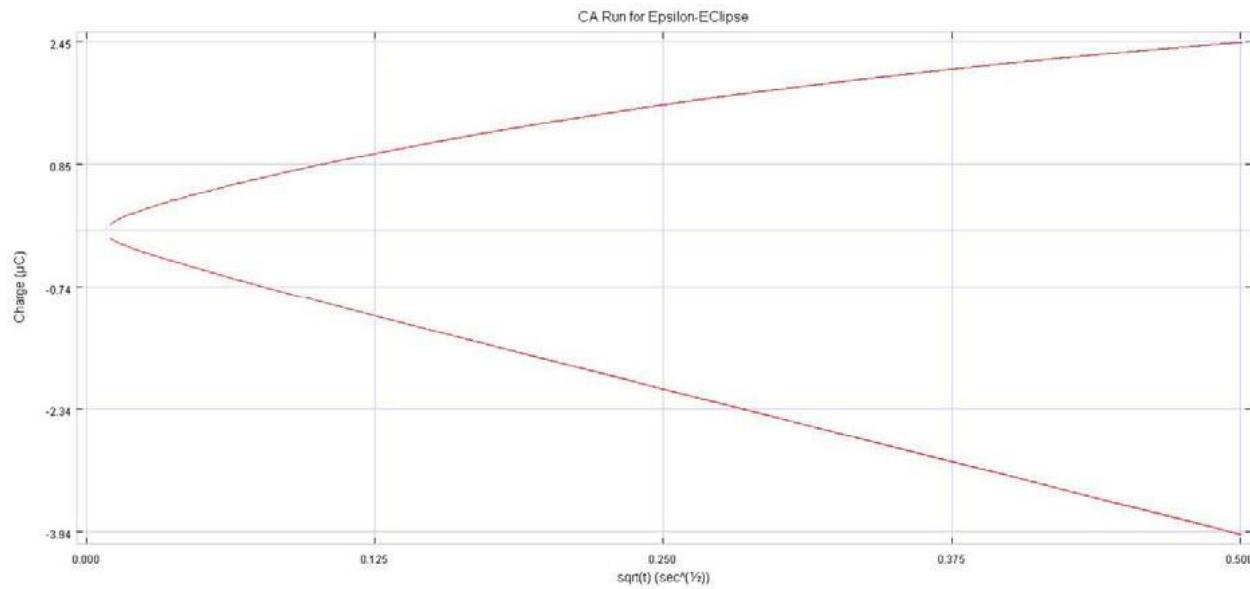

Figure 11 - Q vs. sqrt(T) plot for Chronoamperometry/Chronocoulometry
12. The data from a **Chronoamperometry/Chronocoulometry** experiment can be plotted in a number of different formats, which can be selected using **Select Graph Type** in the graph menu, or by right-clicking on the graph. The **Q vs. sqrt(T)** plot is shown in **Figure 11**.